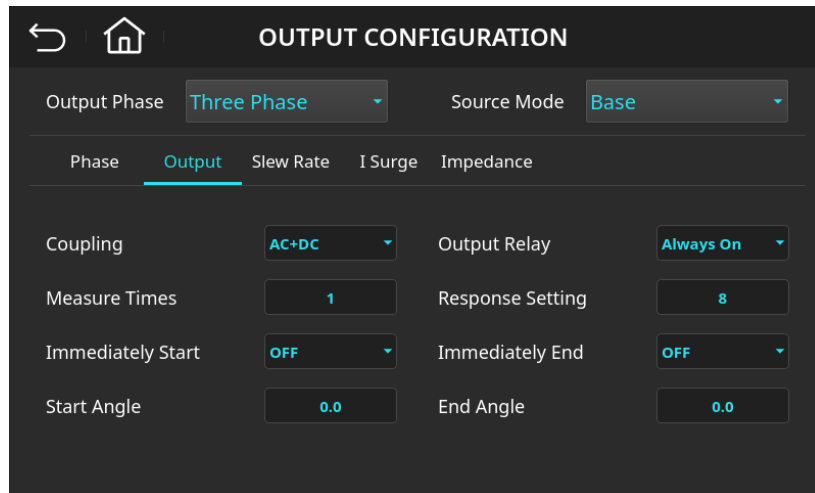

Figure 4-37: Output Configuration (Output) Page – Output Relay Set to “Always On”
3. Select “Always On” to complete the setting, as shown in Figure 4-37.